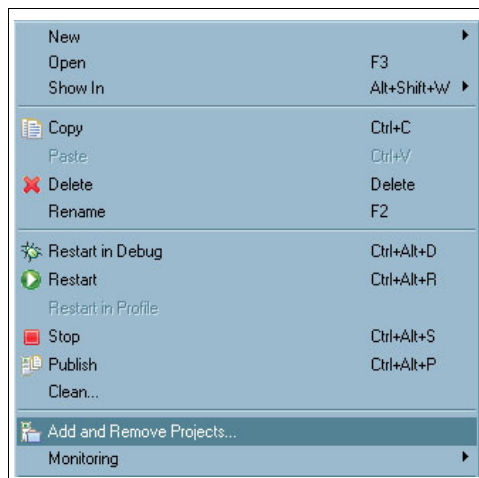

Figure 8-81 Add and Remove Projects
10. Select **Add** and **Remove Projects**. See Figure 8-81.